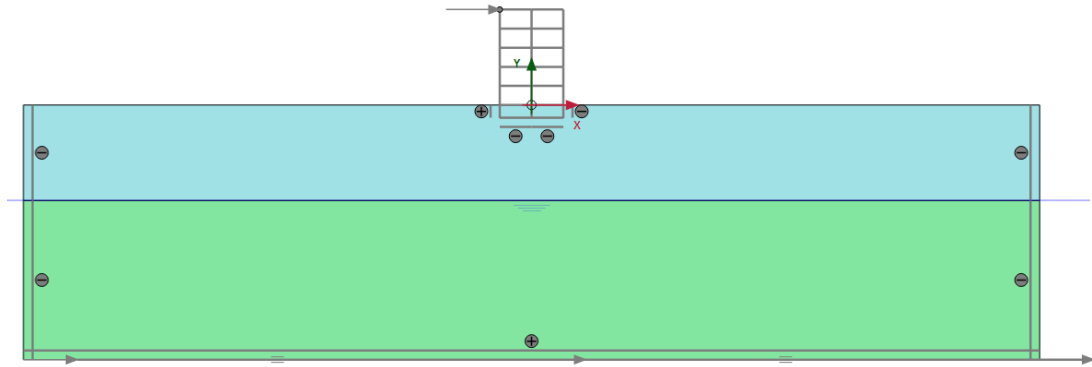

Figure 17-9: Initial phase
- 4 The model for the initial phase is shown in Figure 17-9 \(p. 265\).